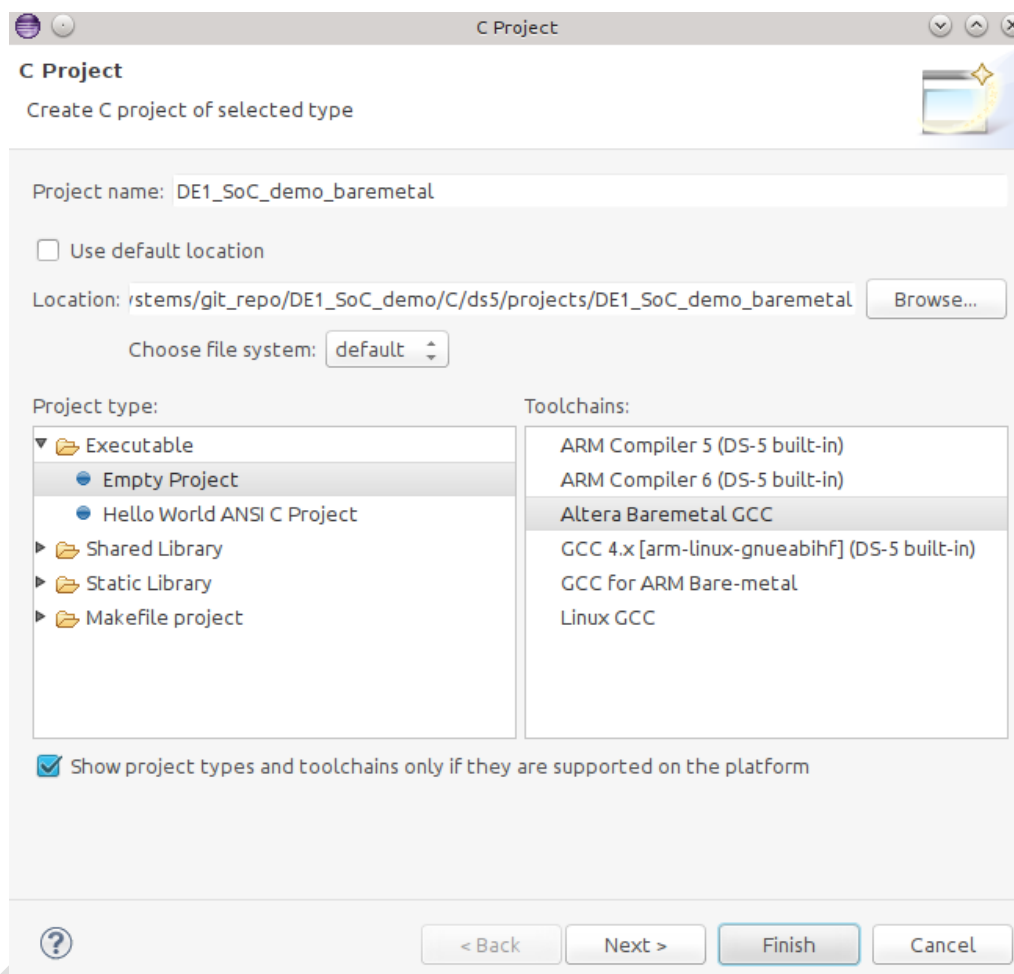

Figure 8-24. New C Project Dialog
- f. You should have something similar to Figure 8-24. Then, press the “Finish” button to create the project.